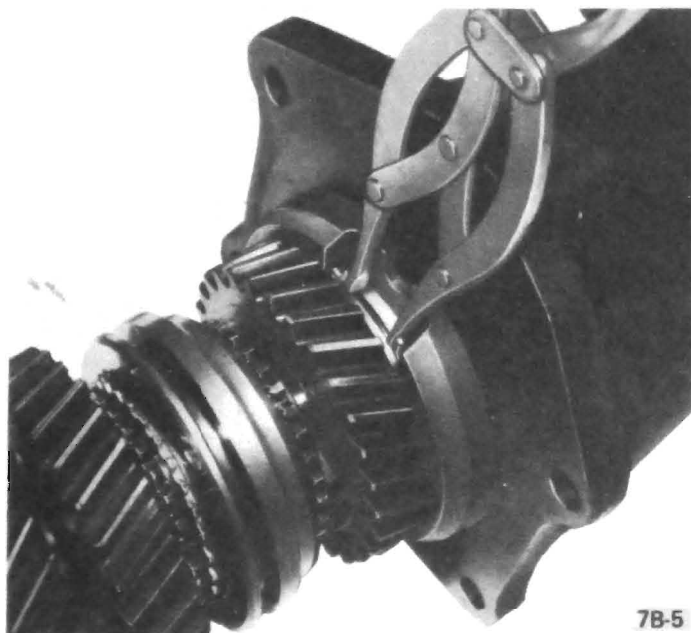

Figure 7B-5 Removing Rear Bearing Retainer.
11. Using Countershaft Alignment Tool J-22246, remove counter gear shaft and its woodruff key through rear of case. See Figure 7B-6. Remove two (2) tanged bronze thrust washers.